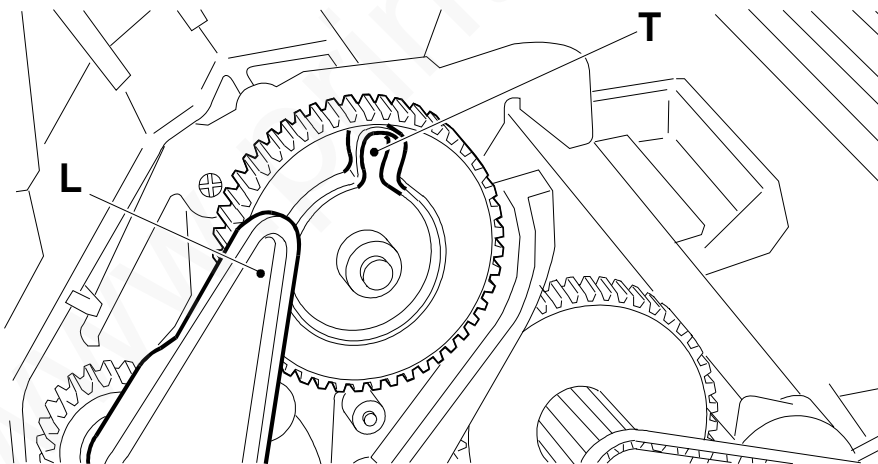

Fig. 7-33
- position lever **L** inside the notch **T** of the cam (Fig. 7-33):
- position lever **L** inside notch **T** of the cam (Fig. 7-33).